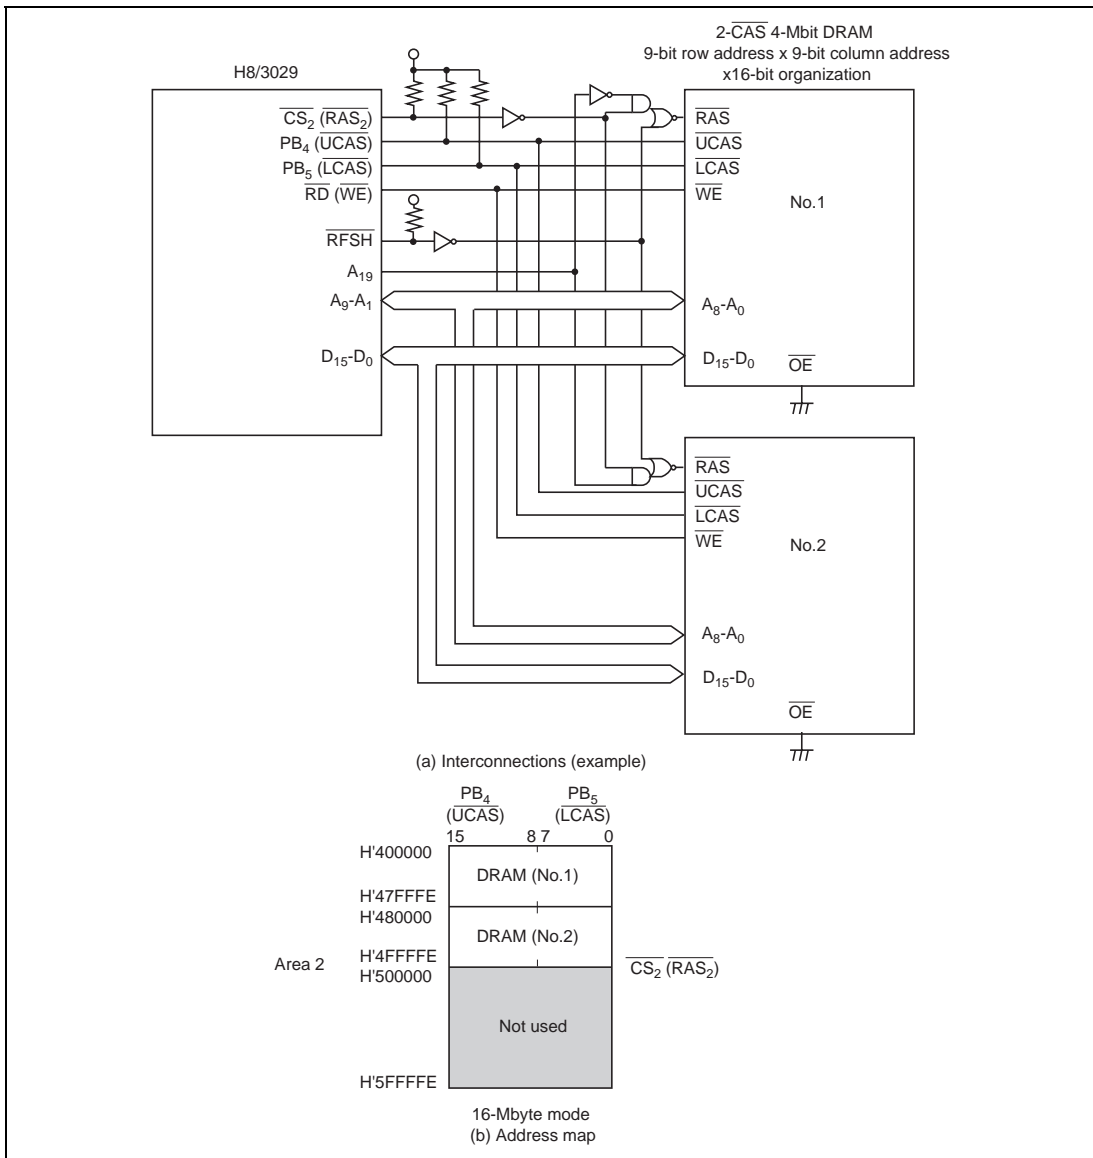

Figure 6.33 Interconnections and Address Map for 2-CAS 4-Mbit DRAMs with \times 16-Bit Organization
- Figure 6.33 shows typical interconnections when using two 4-Mbit DRAMs, and the corresponding address map. The DRAMs used in this example are of the 9-bit row address \times 9-bit column address type. In this example, upper address decoding allows multiple DRAMs to be connected to a single area. The RFSH pin is used in this case, since both DRAMs must be refreshed simultaneously. However, note that RAS down mode cannot be used in this interconnection example.